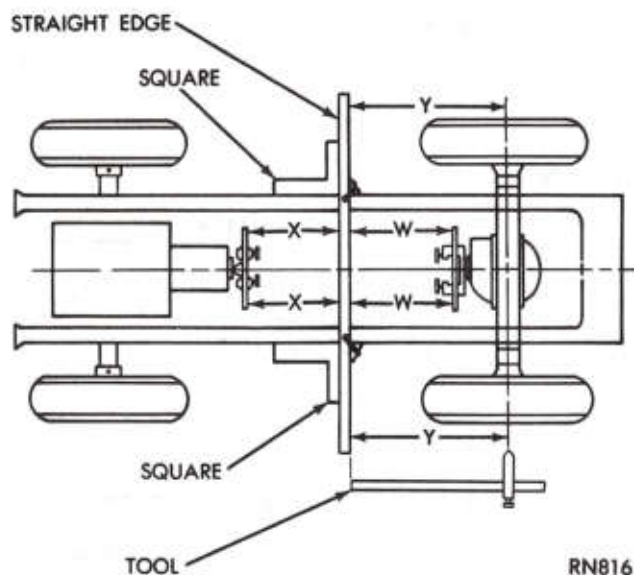

Fig. 3—Alignment Inspection
(1) Fabricate this tool from a long piece of 1/2 inch (12.7mm) drill rod and a short piece of 3/4 inch (19mm) rod, one end ground to a point (Fig. 3).